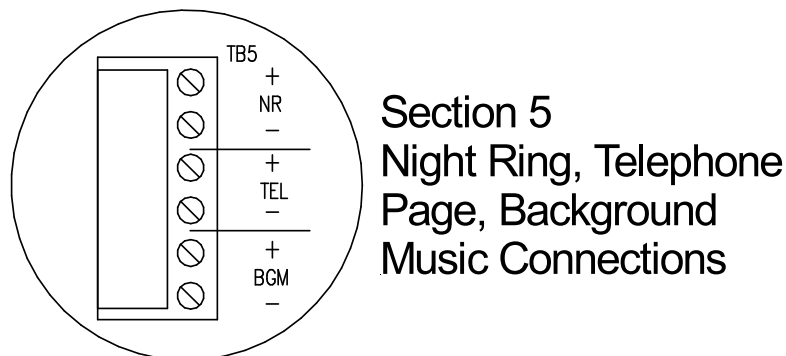

Figure 16 Ancillary Audio Input Connections
1. Connect Telephone Page Input (TEL) to TB5. See Figure 10 for TB5's location. Figure 16 is an enlarged picture of the referred area.
2. Connect Night Ring Input (NR) to TB5.